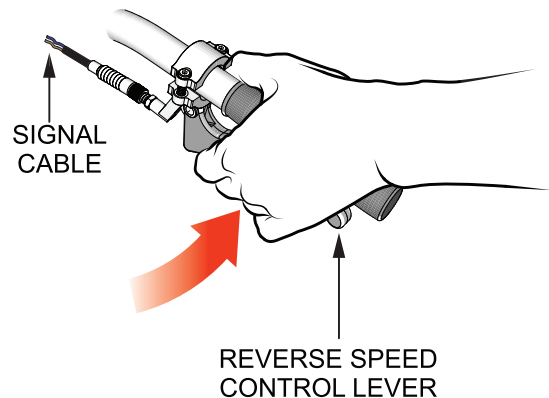

Figure 25. Reverse Control Lever Signal Cable
5. Squeeze the **reverse** control lever signal cable (Figure 25) and hold down.